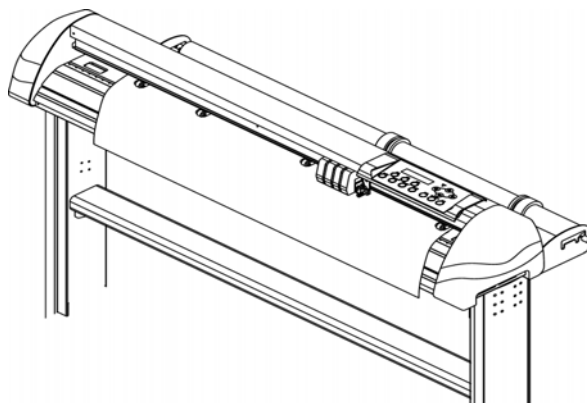

Figure 4-14
3. After loading the roll media all pinch rollers are raised at this stage, flatten the media on the platen and hold the front edge of the roll media firmly (Figure 4-14).